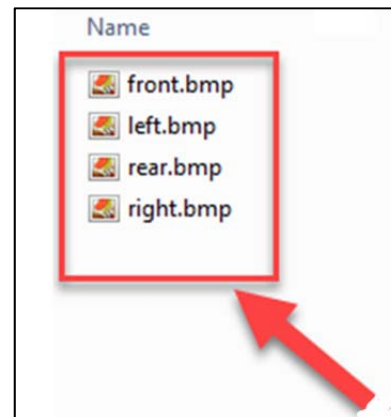

Figure 109
- 173. Copy the list of files (4) shown in Figure 109 on a USB key into a new folder with a name including the VIN and give it to the service manager.
- 174. Copy the list of files (4) shown in Figure 109 into a new compressed folder with a name including the VIN and send it by email to the service manager.